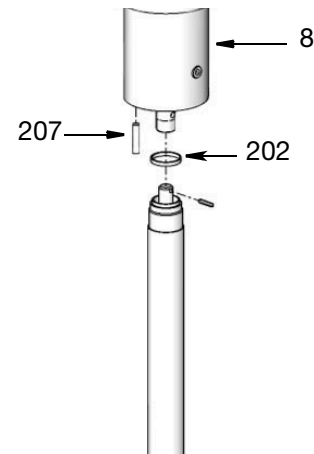

FIG. 29
2. Replace nylon pellet (207) in threads on bottom of pump adapter (8) (FIG. 29).
3. Install new gasket (202) in pump adapter (8) (FIG. 29).
4. Screw connecting rod (107) into displacement rod (35) until holes align. Install cotter pin (204) through holes.